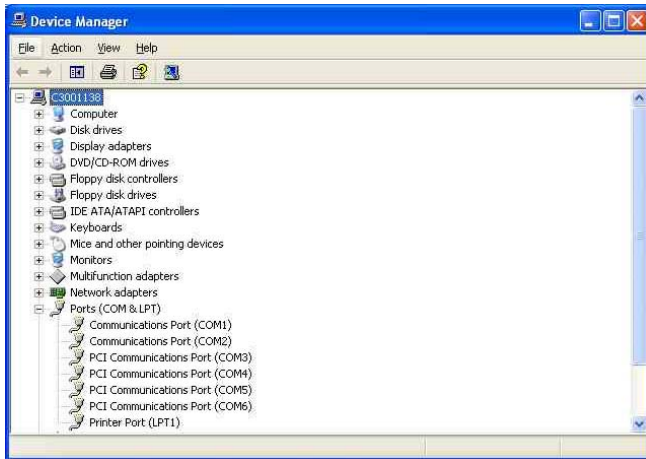

Figure 2
Figure 2 shows a sample Windows XP Device Manager view and a typical assignment of COM ports on a PC with (2) NCC-2F boards installed. The port assignments for the NCC-2F are labeled *PCI Communications Port*.